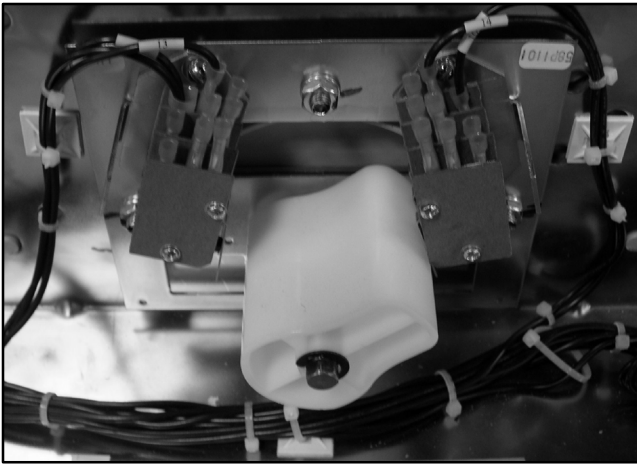

Figure 7-4 Microswitch Fast-On Connectors
6. Disconnect the fast-on connectors. See Figure 7-4.